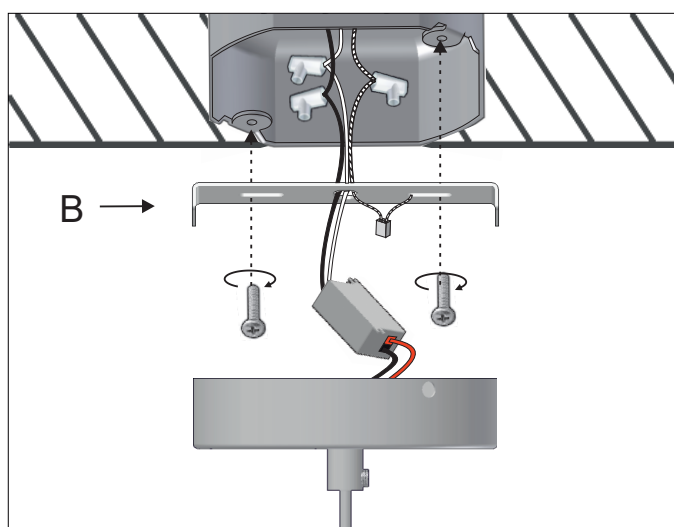

Figure 3B
Make the electrical connections inside the junction box. Attach the mounting bracket (B) to the ceiling. Figure 3B.